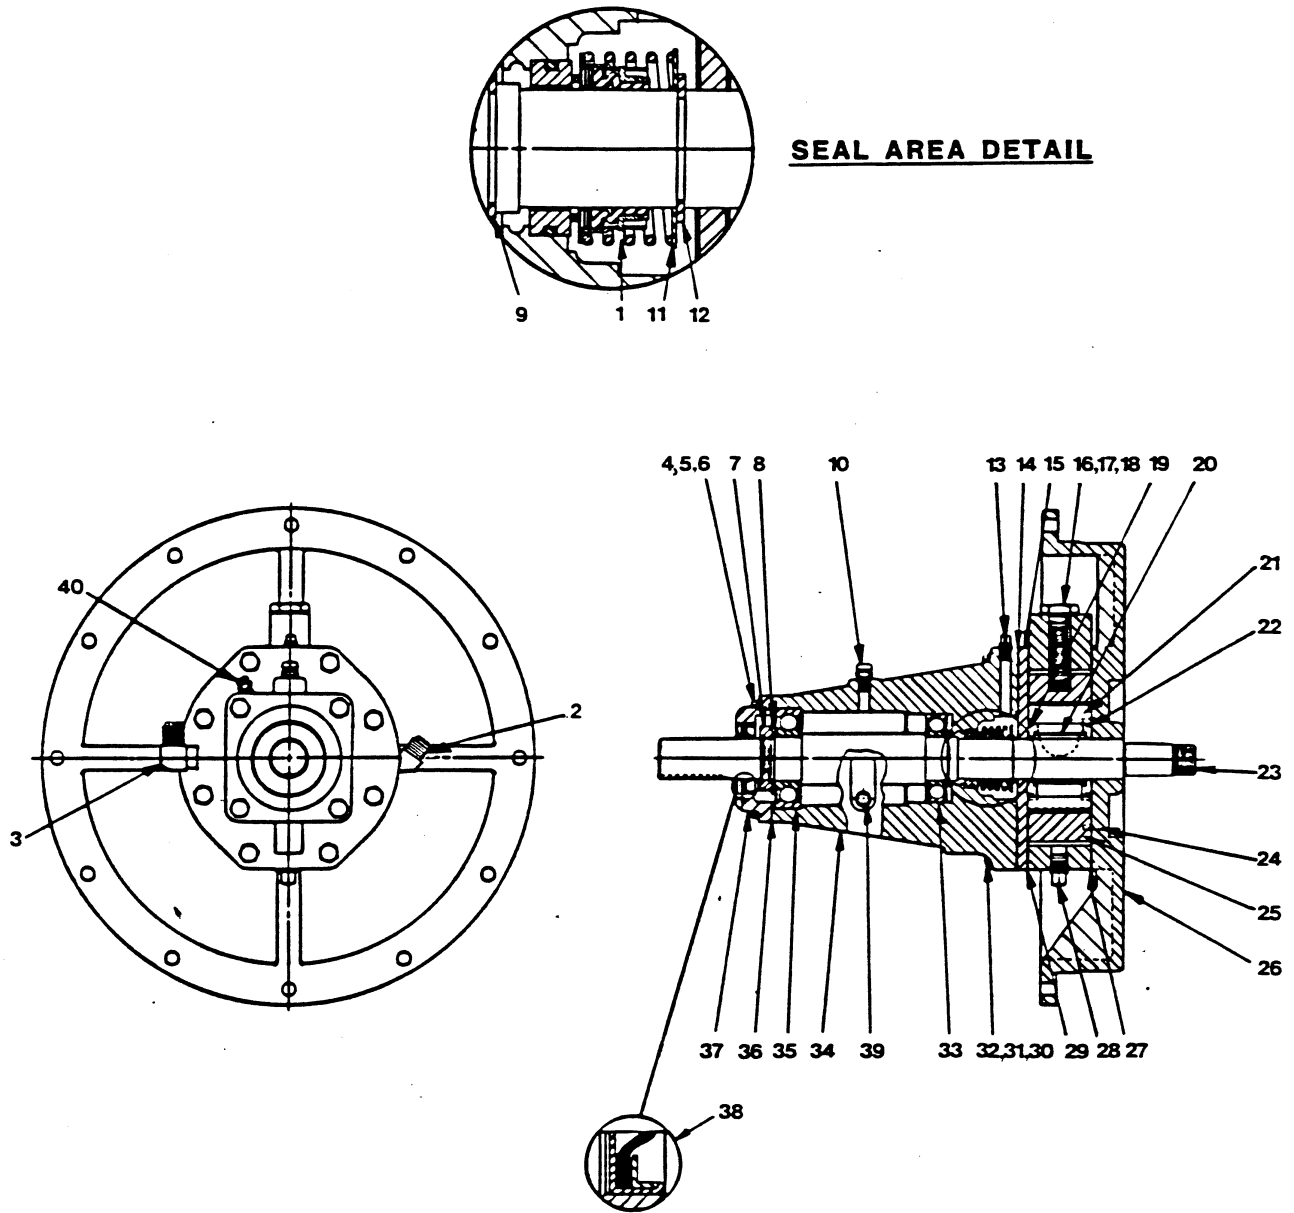

Figure 2. Bearing Housing Assembly R12051-11
Before attempting to service the pump, disconnect or lock out the power supply to prevent accidental start up. Close all valves in the suction and discharge piping and drain the pump casing and group grind by removing the drain plugs (16, Figure 1, and 28, Figure 2). Clean and reinstall the drain plugs.
Disconnect the priming tube assembly (5) from the bearing housing (34, Figure 2) and pump casing.